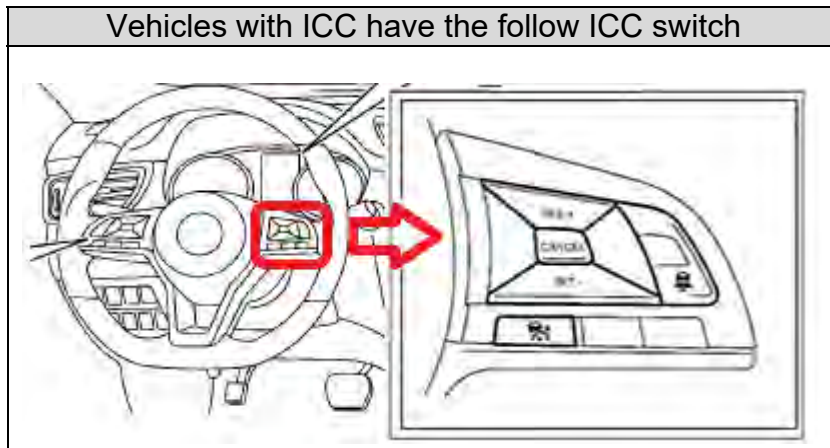
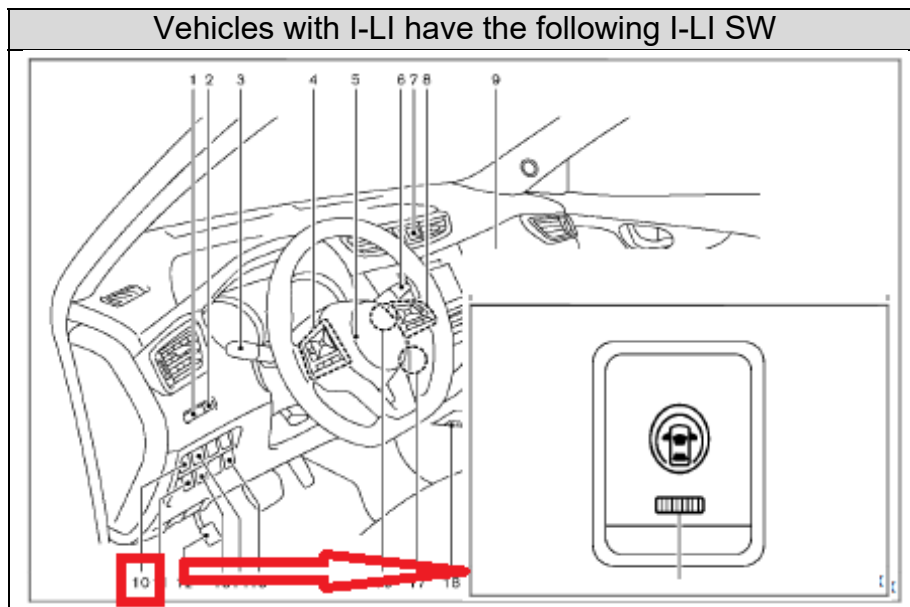

Figure 25
Figure 26
- Refer to Figure 25 – Figure 26 to confirm the Vehicle Spec before selecting a new Type ID.
- Refer to Figure 25 to confirm that the vehicle is “With Intelligent Cruise Control (ICC)” or “W/O ICC”.
- Refer to Figure 26 to confirm that the vehicle is “With Intelligent Lane Intervention (I-LI)” or “W/O I-LI”.